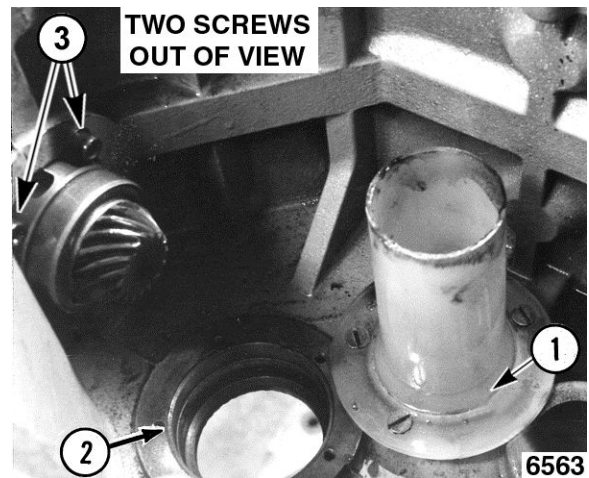

Fig. 49
NOTE: Once the chimney is removed, the attachment hub can be removed from the transmission housing by removing the attachment hub screws (3, Fig. 49). Refer to #12 ATTACHMENT HUB ASSEMBLY for complete removal procedure.
17. Remove chimney [1] Fig. 49 to gain access to lower ball bearing of planetary shaft [2] Fig. 49.